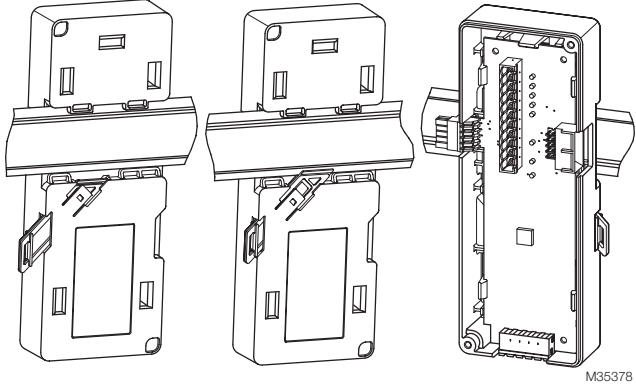

Fig. 3. Sub-base locking mechanisms.
DIN Rail (See Fig. 3)
2. Mount the sub-base module first. The sub-base has locking mechanisms on both sides of the module. Pull to unlock position. See Fig. 3.